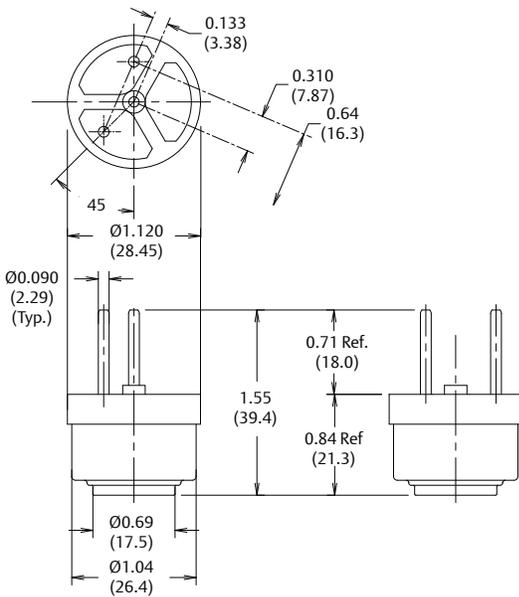

Figure 8
**Pin terminals-** The 37TB construction provides pin terminals in place of lead wire coming from the thermostat (see figure 8).